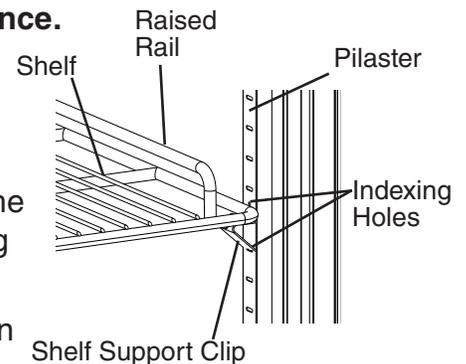

Fig. 2
- 1) Place the shelf support clips into the pilasters (4 shelf support clips per shelf). Indexing holes are provided on the pilasters in evenly spaced intervals to assist in positioning the support clips at the same height. See Fig. 2.